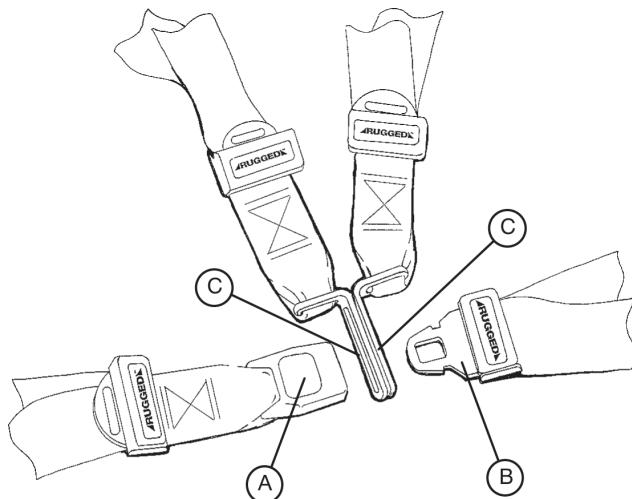

Figure 17 - Buckling the Safety Restraints
- To open the restraint, press the red button (A) on the front of the buckle "receiver". This releases the buckle "tang" (B) which can then be pulled out of the receiver (Figure 17).
- To close the restraint, push the tang into the receiver until a "click" is heard. When fastening the chest restraint ensure the tang passes through both links (C) on the shoulder strap (Figure 17).